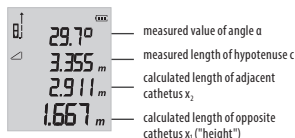

Fig. 6
- The measurement is performed as shown in fig. 3, where the dashed line and angle α on the figures is measured using the device and the result is the calculation of the cathetus side lengths. The measured and calculated values are shown on the display, see fig. 6.